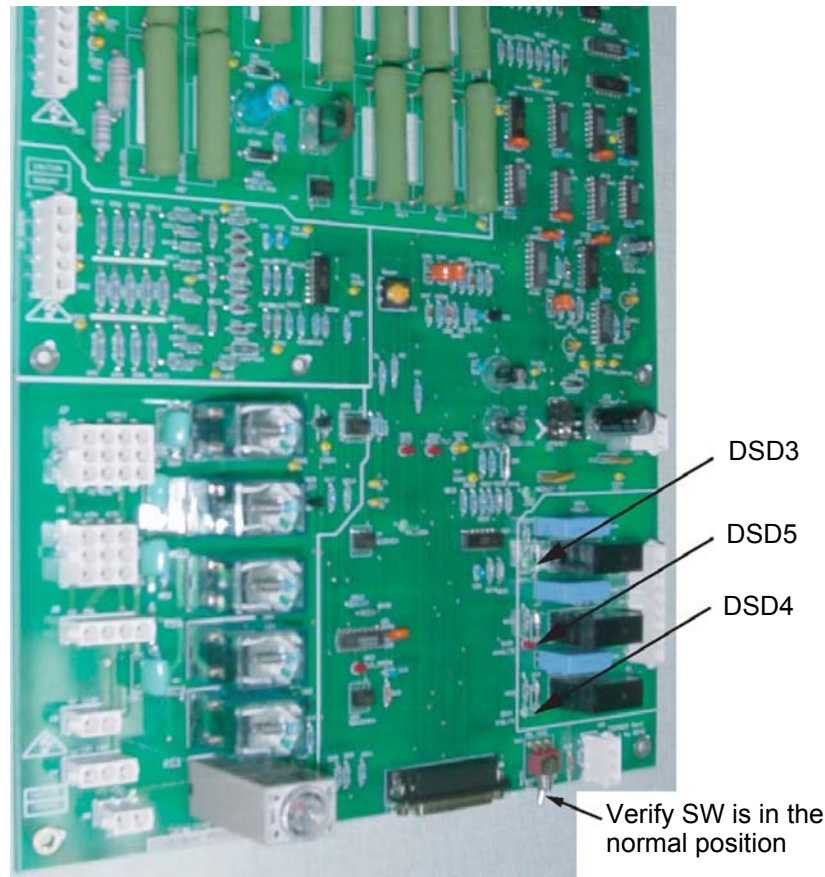

Figure 4-19 NGPDU Control Board
- 2.) When the system is powered, three lamps should be "ON". (Refer to Figure 4-19.)